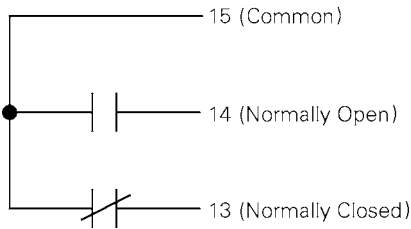

Figure 12. Bell Alarm–Alarm Only connections on the right terminal block. The contacts are shown in the reset state.
The Bell Alarm–Alarm Only provides normally open (NO) and normally closed (NC) outputs available at the terminal block on the right side of the switch, as illustrated in Figure 12. The outputs change state whenever a switch ground fault trip occurs. This trip can be caused by a ground fault condition detected by the Control Unit.